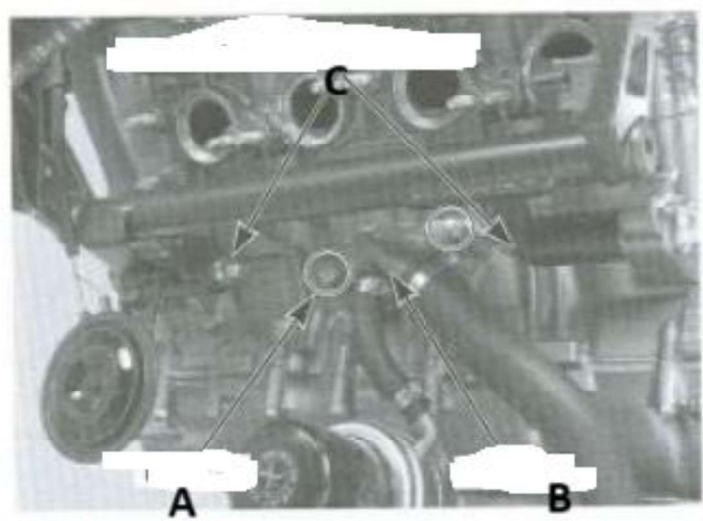

Figure 14
20. Remove the screw (Figure 14, item A), collars (item B) that attach the cover (item C) to the engine. Discard the hardware.